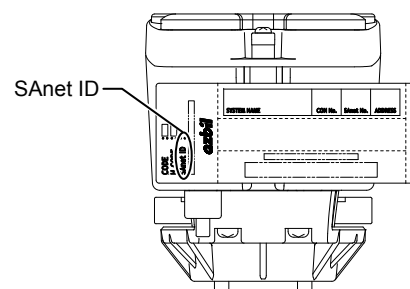

Figure 17. SAnet ID on the product code label
2. With Data Setter or PC-MMI, enter the SAnet ID (on the product code label) and address number to set. The product code label is attached on the side surface of the actuator, as shown in Fig. 17.